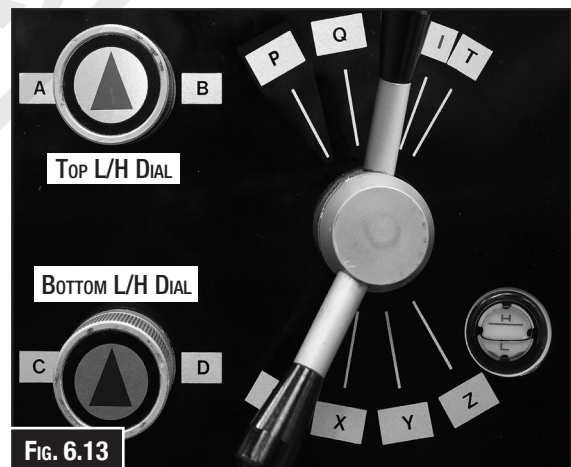

Fig. 6.13
2. Position the top left hand dial pointer between "A" and "B", then position bottom left hand gearbox dial pointer between "C" and "D" (Fig. 6.13). This allows feed rod to move freely so adjustments can be made to the clutch.